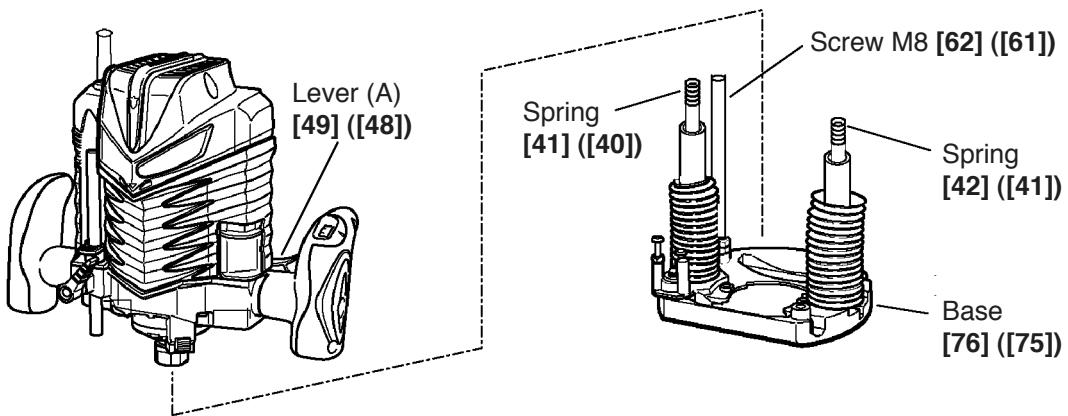

Fig. 3
(1) First, remove the bit. If further disassembly is attempted with the bit mounted on the router, it may cause damage to the cutting edges of the bit and/or serious injury to the handler.
(2) Removal of the Base [76] ([75]) (Fig. 3)
- (b) Lock Lever (A) [49] ([48]).
- (d) Release Lever (A) [49] ([48]) and disassemble the Base [76] ([75]) from the main body. As the Springs [41] [42] ([40]) ([41]) are installed within the columns of the Base [76] ([75]), be sure to support the main body by firmly gripping the handle during disassembly.